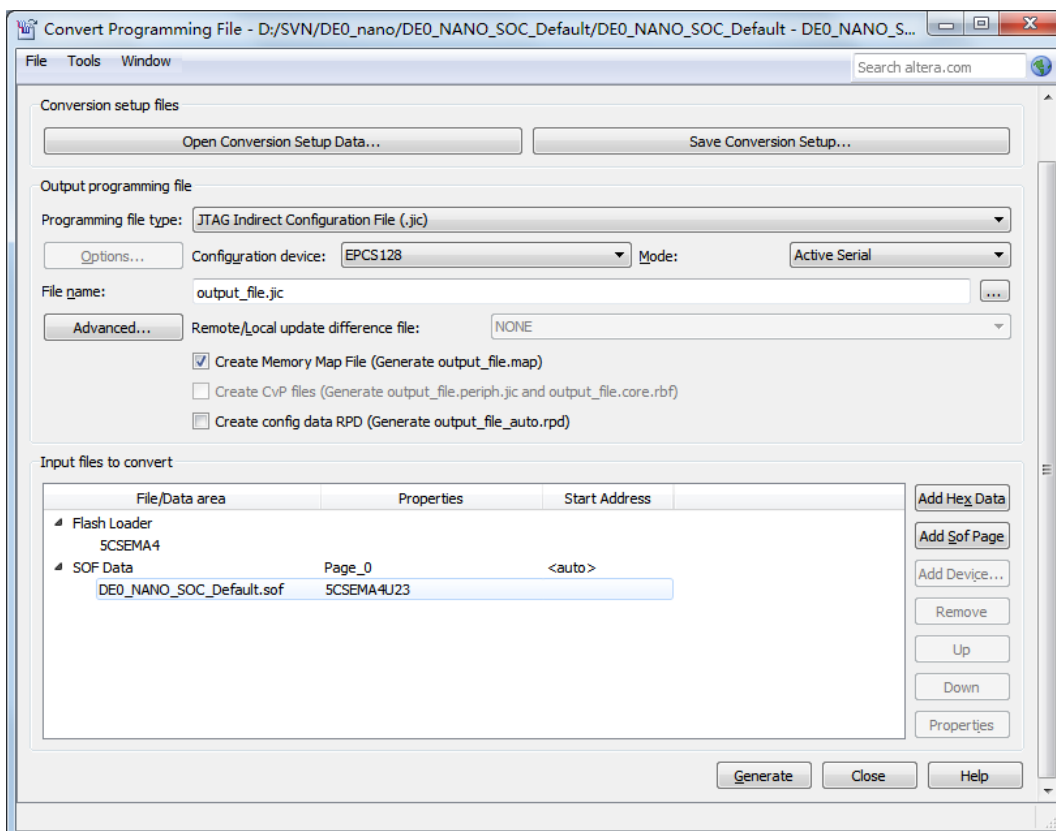

Figure 8-6 “Convert Programming Files” page after selecting the device
13. Click **OK** and the **Convert Programming Files** page will appear, as shown in **Figure 8-6**.